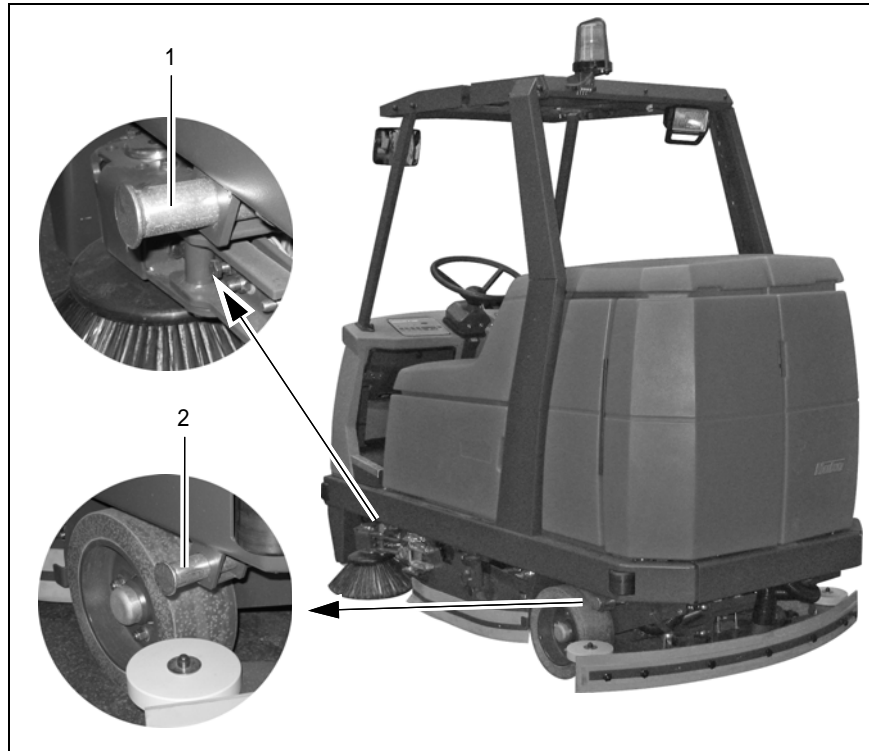

Fig. 37
- The attachment points are bolts (Fig. 37/1+2) which can be pulled out from the sides of the frame. The bolts are locked in their projecting position by turning them.